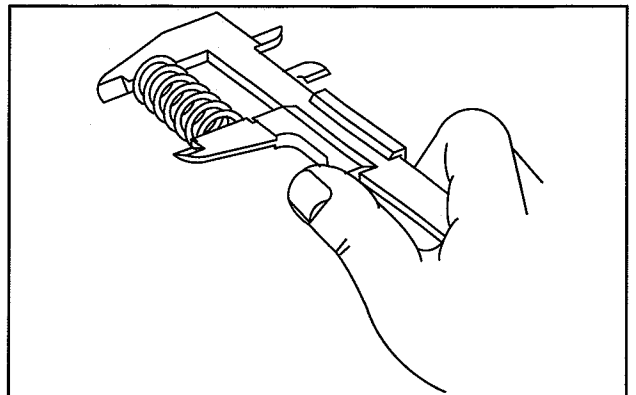

Fig. 18 – Check Valve Springs
5. Check valve springs for free length, Fig. 18.